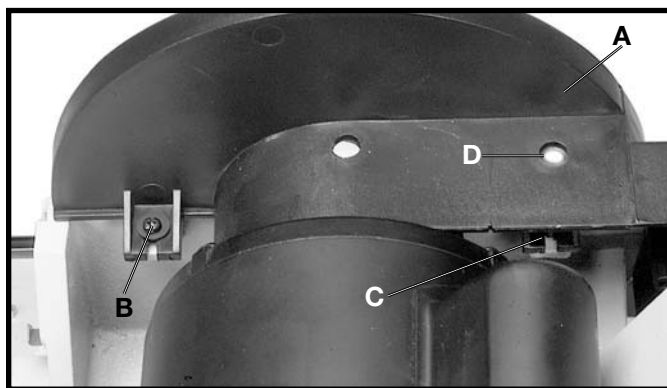

Fig. 5
2. Position the guard (A) Fig. 5, in place on the disc unit frame and fasten in place using the two M4x.07x10mm cheese head screws (B) and (C) and two 3/16" flat washers. **DO NOT COMPLETELY TIGHTEN SCREWS (B) AND (C) AT THIS TIME AS THE GUARD MUST BE ADJUSTED TO SANDING DISC PLATE. NOTE:** Access to screw (C) is through hole (D) in top of guard.